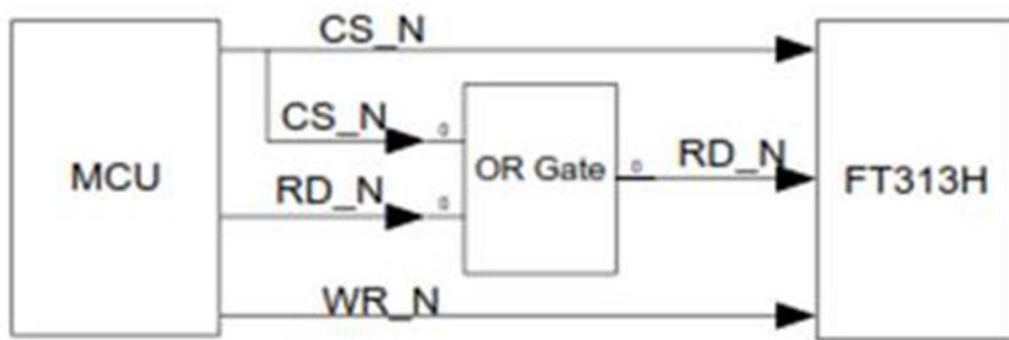

**Figure 7-1 FT313H Chip Schematic**
FT313H can be configured to communicate with a microcontroller uses 16-bit/8-bit SRAM asynchronous bus interface, NOR interface, and General Multiplex interface. An example schematic is show in **Figure 7-1**.
**Important Note:** The configuration shown in Figure 7-1 above is for cases where the FT313H is the only device present on the processor bus. The FT313H drives the bus lines when CS\_N is high and RD\_N is low, and therefore bus contention will result if other devices also share the bus.